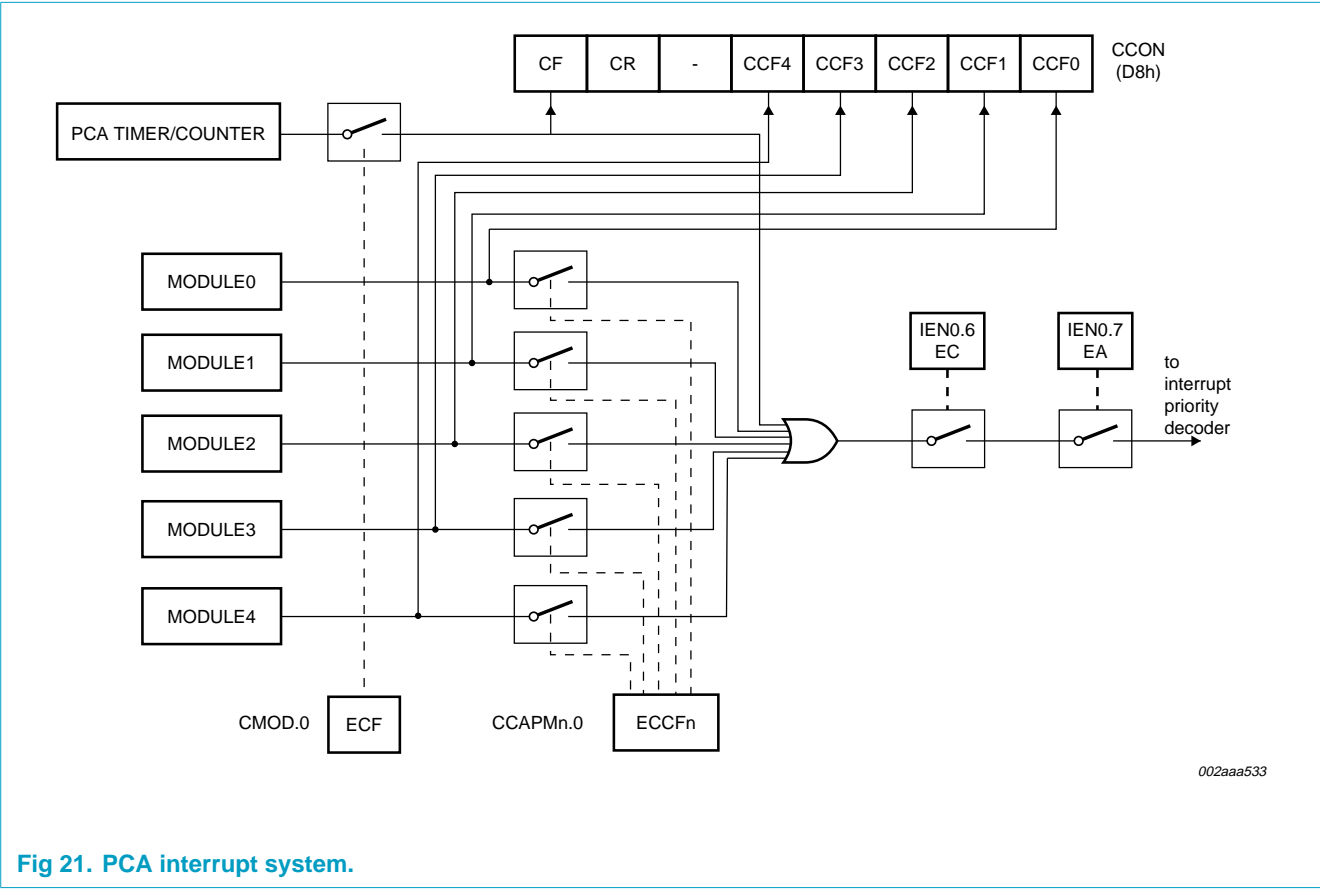

Fig 21. PCA interrupt system.
The CCON SFR contains the run control bit for the PCA (CR) and the flags for the PCA timer (CF) and each module (CCF4:0). To run the PCA the CR bit (CCON.6) must be set by software. The PCA is shut off by clearing this bit. The CF bit (CCON.7) is set when the PCA counter overflows and an interrupt will be generated if the ECF bit in the CMOD register is set. The CF bit can only be cleared by software. Bits 0 through 4 of the CCON register are the flags for the modules (bit 0 for module 0, bit 1 for module 1, etc.) and are set by hardware when either a match or a capture occurs. These flags can only be cleared by software. All the modules share one interrupt vector. The PCA interrupt system is shown in Figure 21.
The ECCF bit (from CCAPMn.0 where n = 0, 1, 2, 3, or 4 depending on the module) enables the CCFn flag in the CCON SFR to generate an interrupt when a match or compare occurs in the associated module (see Figure 21).